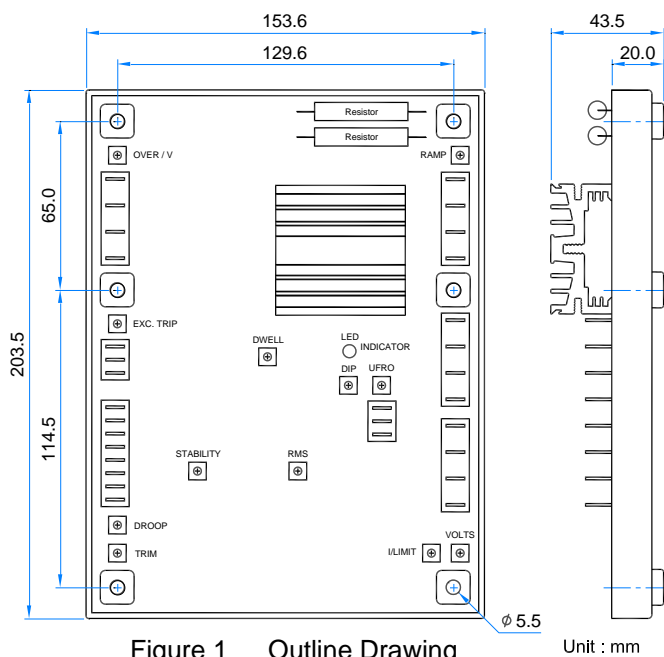

Figure 1 Outline Drawing
2. AVR can be mounted directly on the engine, genset, switchgear, control panel, or any position that will not affects operation. For dimension reference, please see Figure 1.